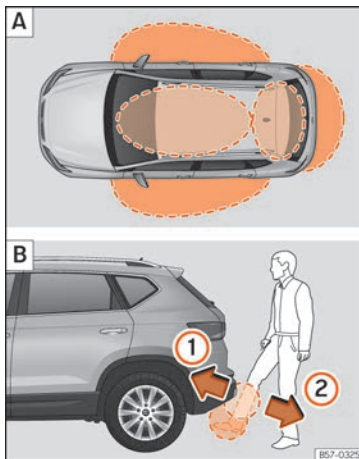

Fig. 139 Keyless Access locking and ignition system: **A** In the proximity of the car. **B** Opening the rear lid with sensor-controlled opening (Easy Open)
Keyless Access is a key-free locking and ignition system to unlock and lock the vehicle without actively using its key. To do this, all that is required is to have a valid vehicle key in the detection area where you are attempting to access the vehicle » **Fig. 139 A** and to touch one of the sensor surfaces on the door handles » **Fig. 140** or operate the soft-touch/handle on the rear lid » **page 139 » 1.**
If a valid key is in the proximity of the car, » **Fig. 139**  the Keyless Access locking and starting system gives the key entry as soon as one of the sensor surfaces on the door handles is touched or the *softtouch*/handle on the rear lid is operated. The following features are then available without having to use the vehicle key actively:
When the vehicle is locked, the rear lid automatically unlocks on opening if there is a valid vehicle key in the proximity » **Fig. 139** .
If there is a valid vehicle key in the proximity » **Fig. 139 [A]** of the rear lid, it is possible to unlock and open or close it moving one foot in the area of the sensors » **Fig. 139 [B]** located under the rear bumper.
- With a brisk movement, bring your foot and lower leg as close as you can to the bumper. The lower part of the leg needs to be close to the upper sensor area and your foot to the lower sensor area » **Fig. 139 [B] ①**.
- Quickly remove your foot and lower leg from the sensor areas » **Fig. 139 [B] ②**. The rear lid will be automatically opened.